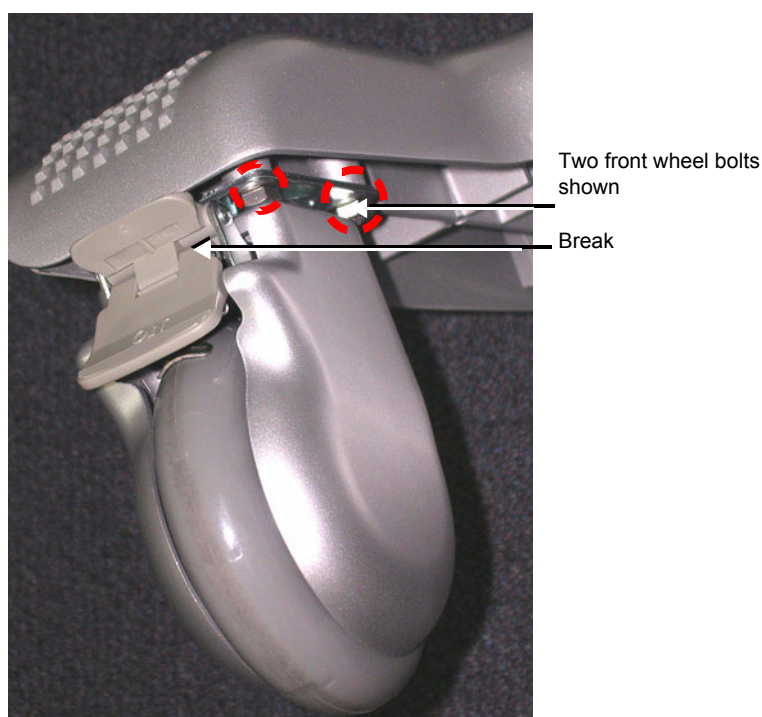

Figure 8-108 Front Wheel Bolted to SafeLock Cart Chassis
- 5) Loosen and remove the four bolts that secure the front wheel to the SafeLock Cart chassis (see Figure 8-108).